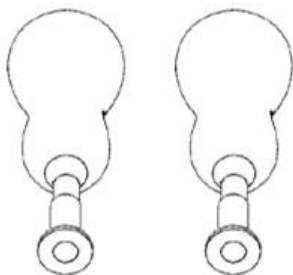

Figure 6
1. Remove two refill bottles from the ViraWarn box (**Figure 6**).